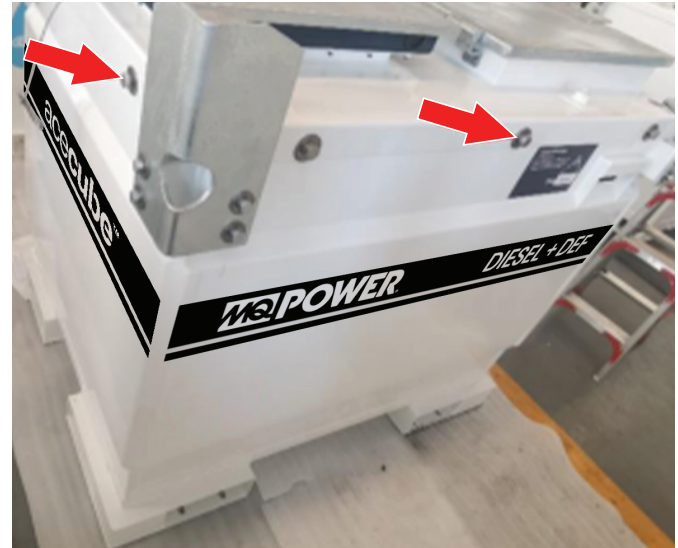

Figure 7. Top Panel Bolts
6. Remove all bolts securing the top panel to the outer tank (Figure 7).